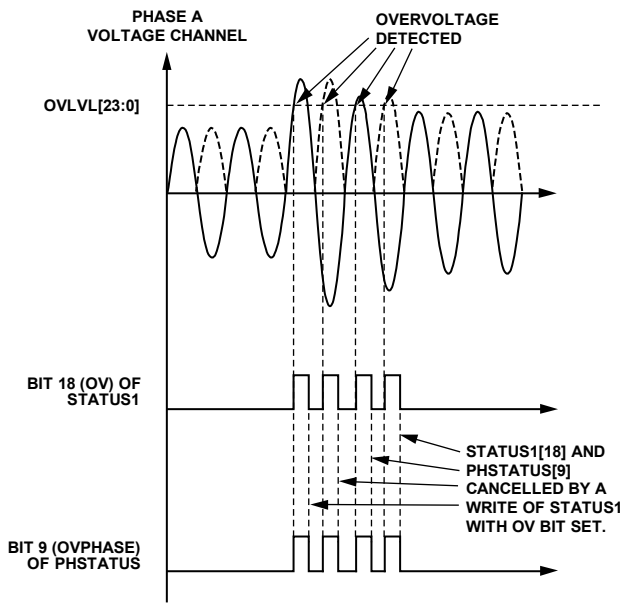

Figure 62. Overvoltage Detection
Status Bit 18 (OV) in the STATUS1 register and all Bits[11:9] (OVPHASE[2:0]) in the PHSTATUS register are cleared, and the  $\overline{\text{IRQ1}}$  pin is set high again by writing to the STATUS1 register with the status bit set to 1. Figure 62 shows overvoltage detection in Phase A voltage. When the absolute instantaneous value of the voltage goes above the threshold from the OVLVL register, Status Bit 18 (OV) in the STATUS1 register and Bit 9 (OVPHASE[0]) in the PHSTATUS register are set to 1. Bit 18 (OV) in the STATUS1 register and Bit 9 (OVPHASE[0]) in the PHSTATUS register are cancelled when the STATUS1 register is written with Status Bit 18 (OV) set to 1.